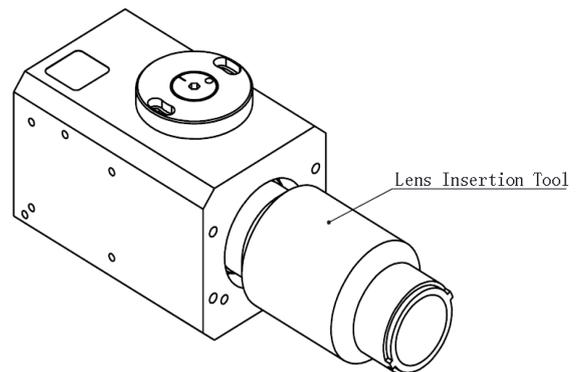

Figure14 Remove The Focusing Lens
- See Figure 14, using the lens insertion tool, unthread the lens holder.